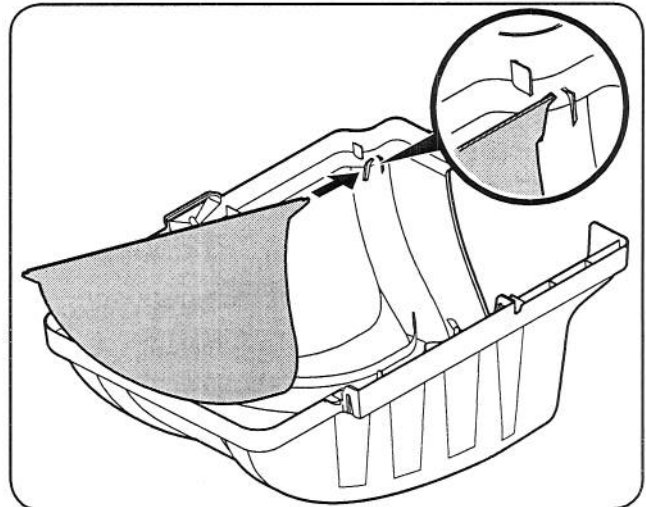
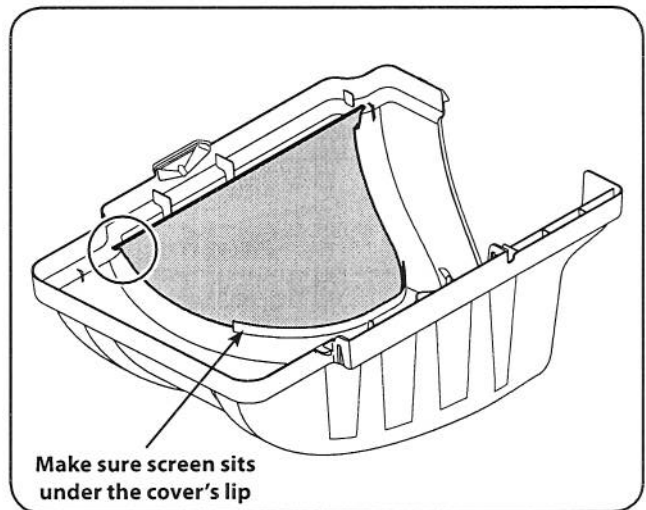

Figure 4-13
Figure 4-14
3. Install the bagger screen into the bagger cover by first inserting the end closest to the side with the cutout into the mounting hole, as in Fig. 4-13. Make sure to feed the screen under the lip, as in Fig. 4-14.
4. Clip in the other side by pushing the screen into the provided cutout. See Fig. 4-14.